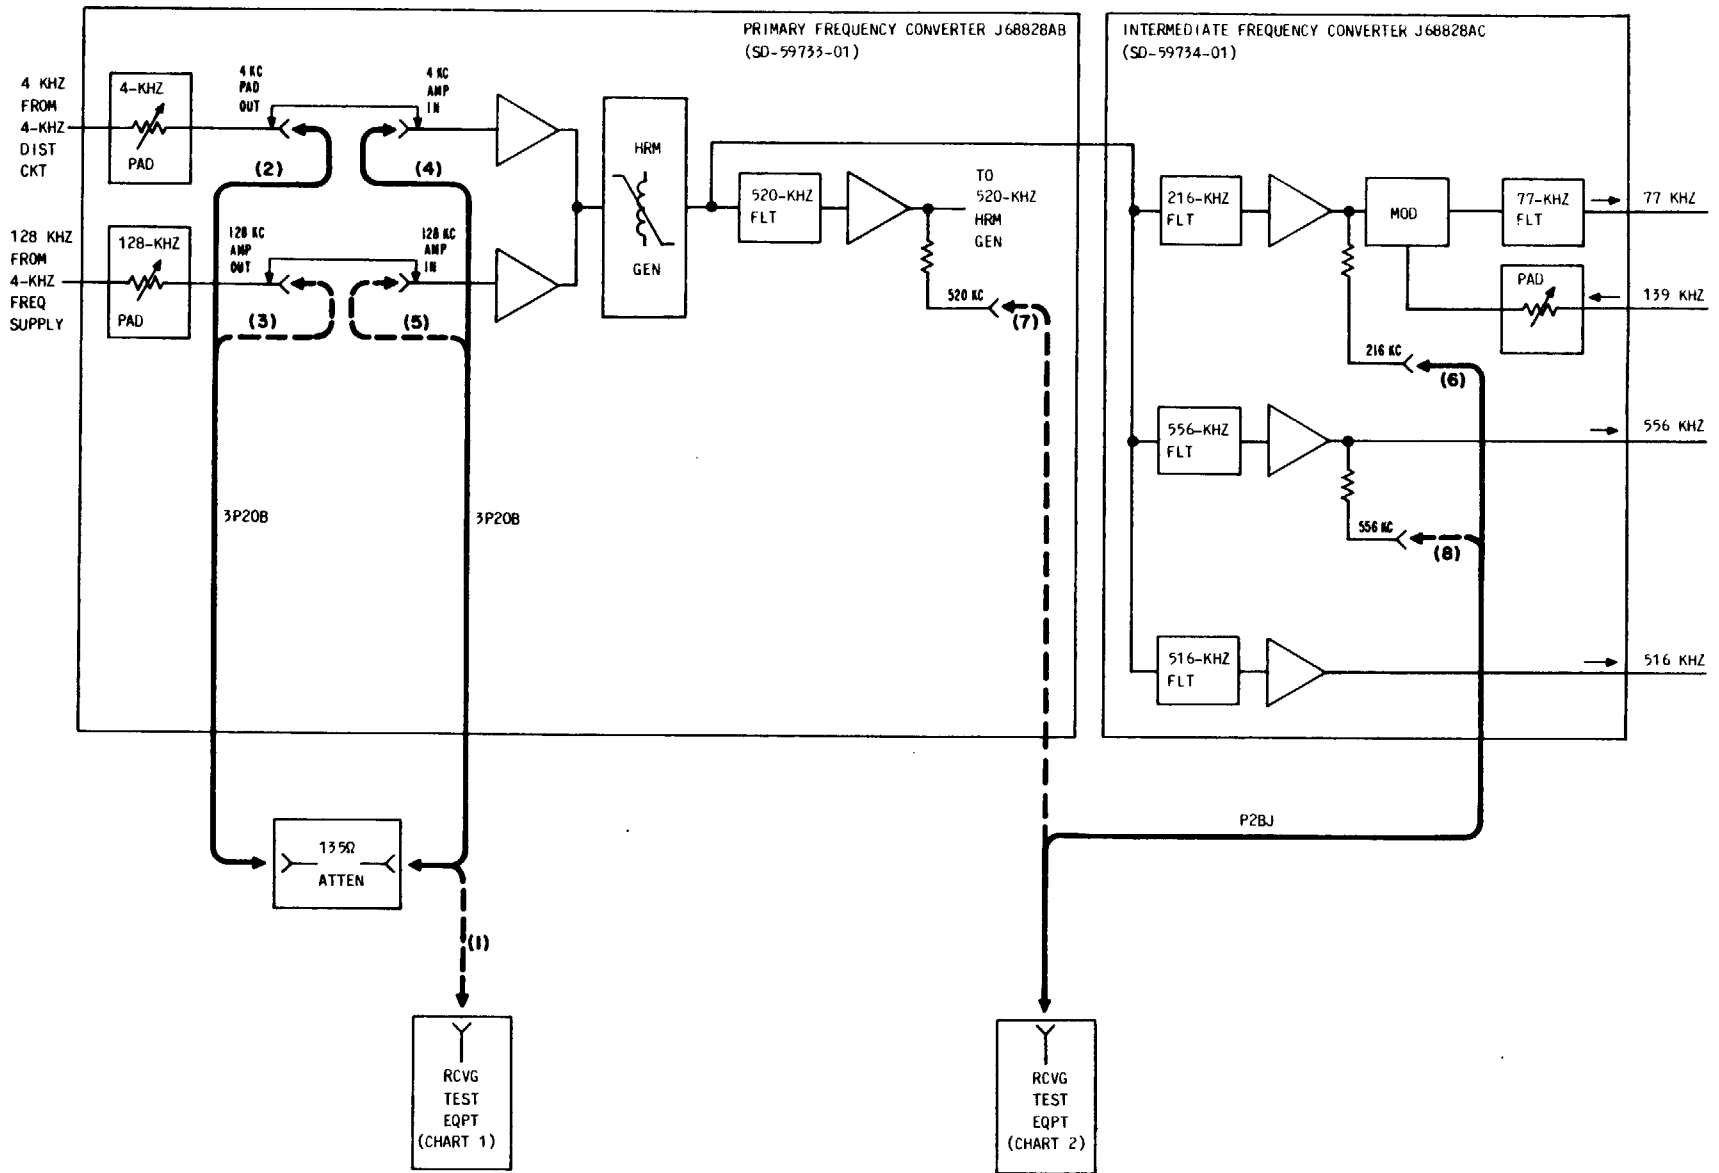
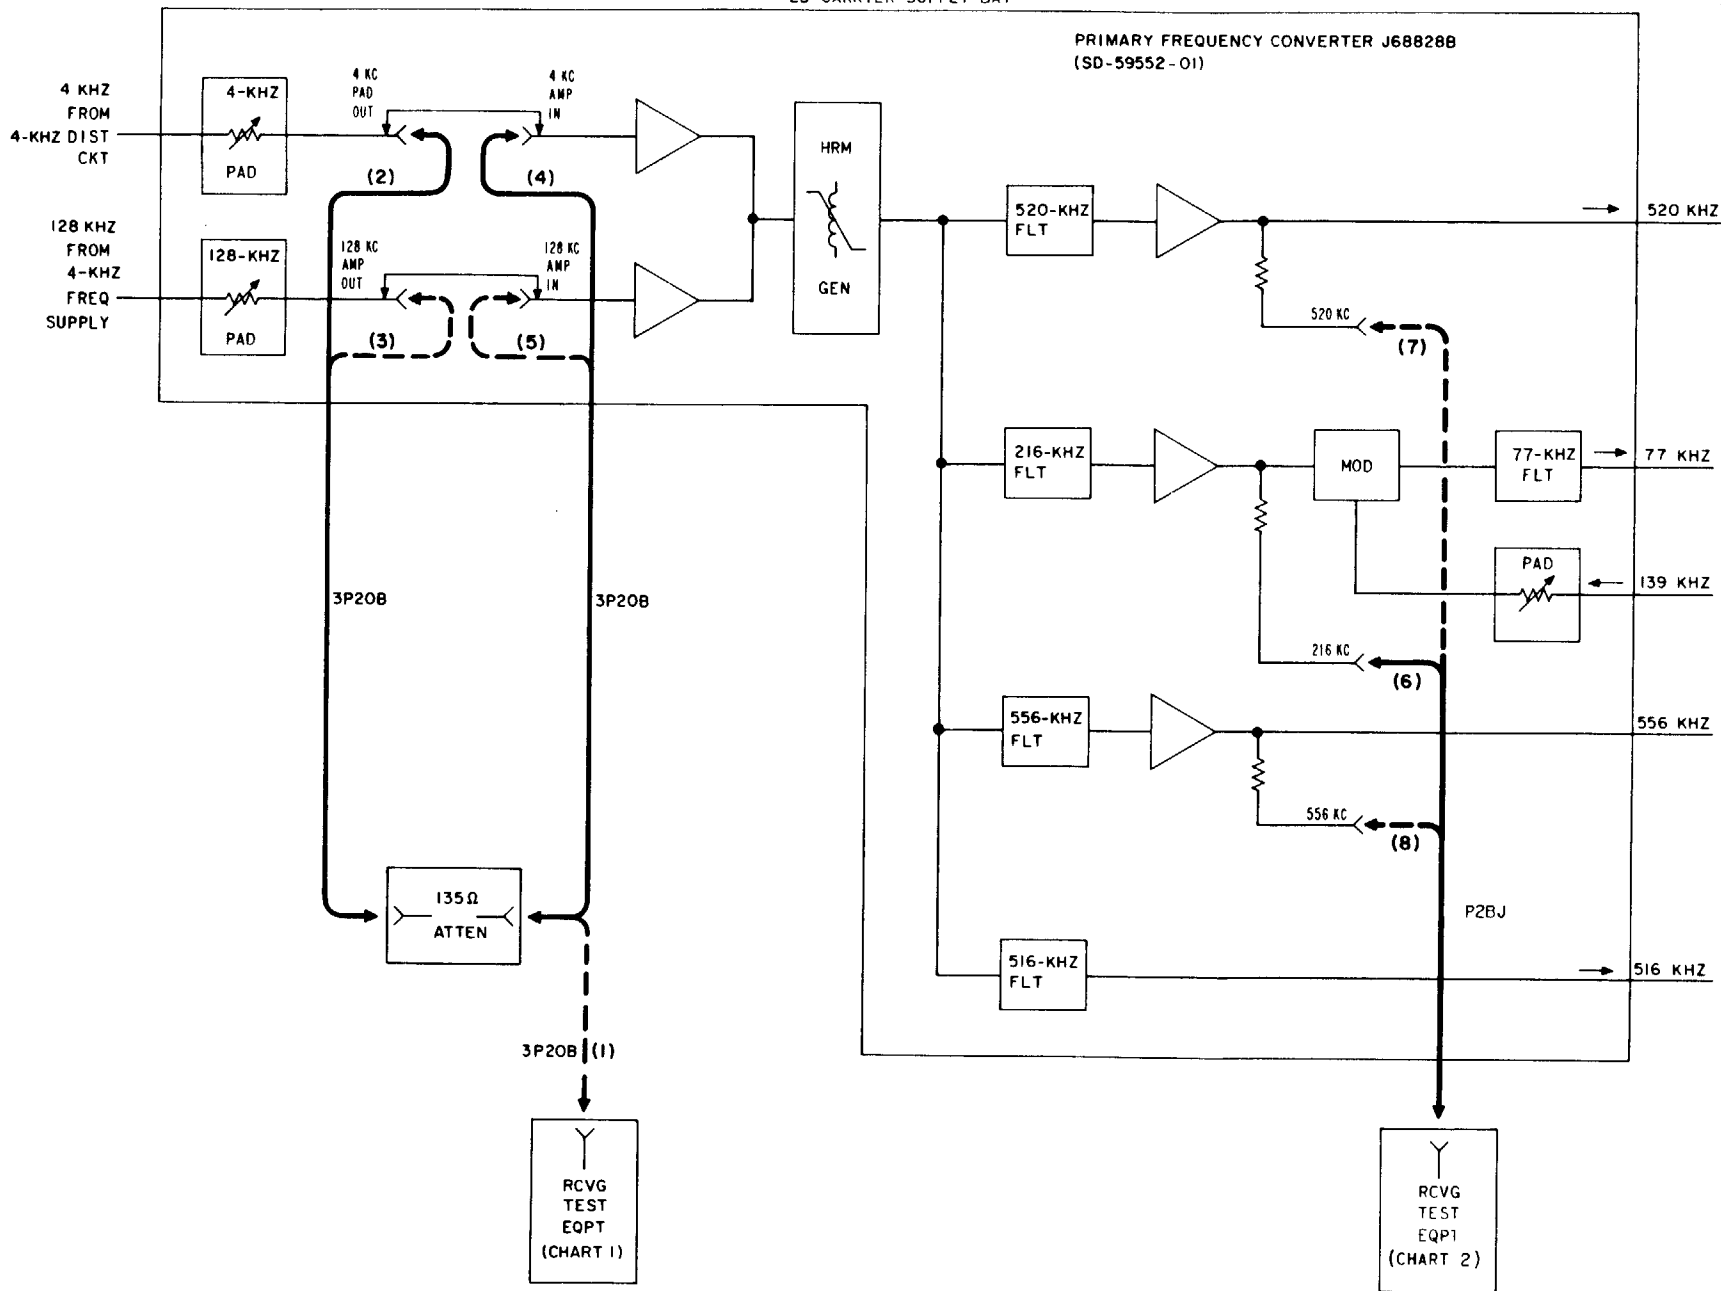

Fig. 2—Input and Output Power Measurements for Primary Frequency Converter J68828AB
Fig. 3—Input and Output Power Measurements for Primary Frequency Converter J68828B
This section explains test procedures for primary frequency converter J68828B (Fig. 1) and J68828AB. A primary frequency converter (Fig. 2 and Fig. 3) receives 4-kHz and 128-kHz input signals from a 4-kHz frequency supply. A harmonic generator provides outputs at 216, 516, 520, and 556 kHz.
| 3    | Measure power of 4-kHz signal at 4 KC PAD OUT jack [patches (1) and (2), Fig. 2 or 3].  |
| 8    | Remove patch (2), Fig. 2 or 3.  |
| 10   | Measure power of 128-kHz signal at 128 KC PAD OUT jack [patch (3), Fig. 2 or 3].  |
- 3 Connect a 135-ohm balanced attenuator set at 0.0 dB between the 4 KC PAD OUT and 4 KC AMP IN jacks [patches (2) and (4), Fig. 2 or 3].
- 4 Measure and record the 216-kHz power at the 216 KC test jack [patch (6), Fig. 2 or 3].
| 8    | Repeat Steps 4 through 7 for the 520-kHz signal at the 520 KC test jack [patch (7), Fig. 2 or 3].  |
| 9    | Repeat Steps 4 through 7 for the 556-kHz signal at the 556 KC test jack [patch (8), Fig. 2 or 3].  |
| 14   | Connect the attenuator, set at 0.0 dB, between the 128 KC PAD OUT and 128 KC AMP IN jacks [patches (3) and (5), Fig. 2 or 3].                              |
| 17   | Measure and record the power of the 216-kHz, 520-kHz, and 556-kHz signals at the test jacks [patches (6), (7), and (8), Fig. 2 or 3].                      |
| 21   | Connect the 135-ohm attenuator, set for 20.0 dB, between the 128 KC PAD OUT and 128 KC AMP IN jacks [patches (3) and (5), Fig. 2 or 3].                    |